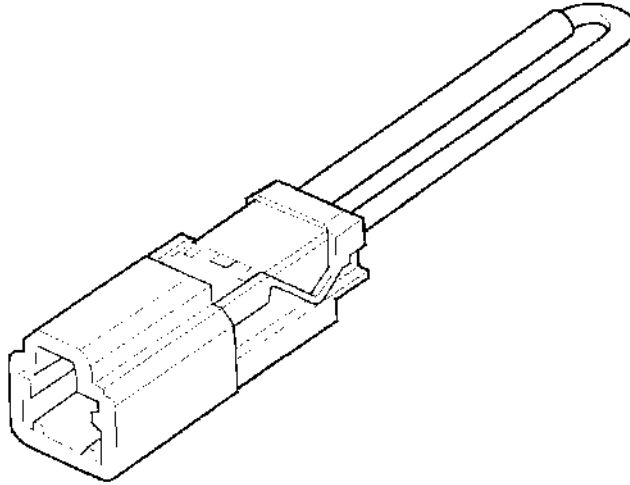

Figure 4-51 SCS Service Connector. Use Acura tool 07PAZ-0010100 (or use jumper wire equivalent)
2. Connect the SCS service connector (Acura 07PAZ-0010100) to the yellow 2-pin MES connector (Figure 4-51).